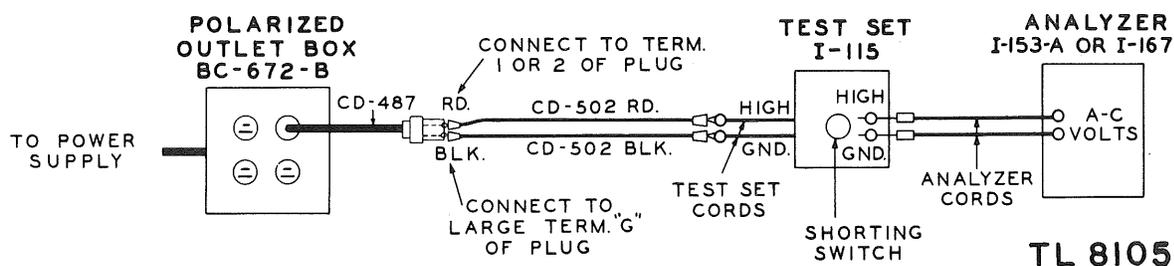

Figure 53. Keyer load, test set, test connections.
- (1) Operate the shorting switch on Test Set I-115.
- (2) Set up the connections to the test equipment shown in figure 53, first connecting Cords CD-502 to Test Set I-115 and to the plug of Cord CD-487. Be careful not to short-circuit the clips against the shell of the plug. Then connect Cord CD-487 to the polarized outlet box.
- (3) Adjust the output of the power unit to 120 volts.
- (4) With the shorting switch held in the operated position and the analyzer set to read a-c volts on the 10-volt scale, read and record the voltage across the output terminals of Test Set I-115.
- (5) Allow the shorting switch to assume its normal unoperated position.
- (6) Determine the input-to-output voltage ratio by dividing 120 by the numerical value of the voltage read in step (4). (The ratio is usually about 26:1). Record this value with that of step (4). This value may then be referred to for future use and need not be recalculated, unless there is a material change in the voltage read in step (4).
- (7) With the analyzer set to read a-c volts on the 10-volt scale, make sure that the voltage read across the output terminals is lower than was observed in step (4). If the voltage reading does not change, it is an indication that the shorting switch is inopera-